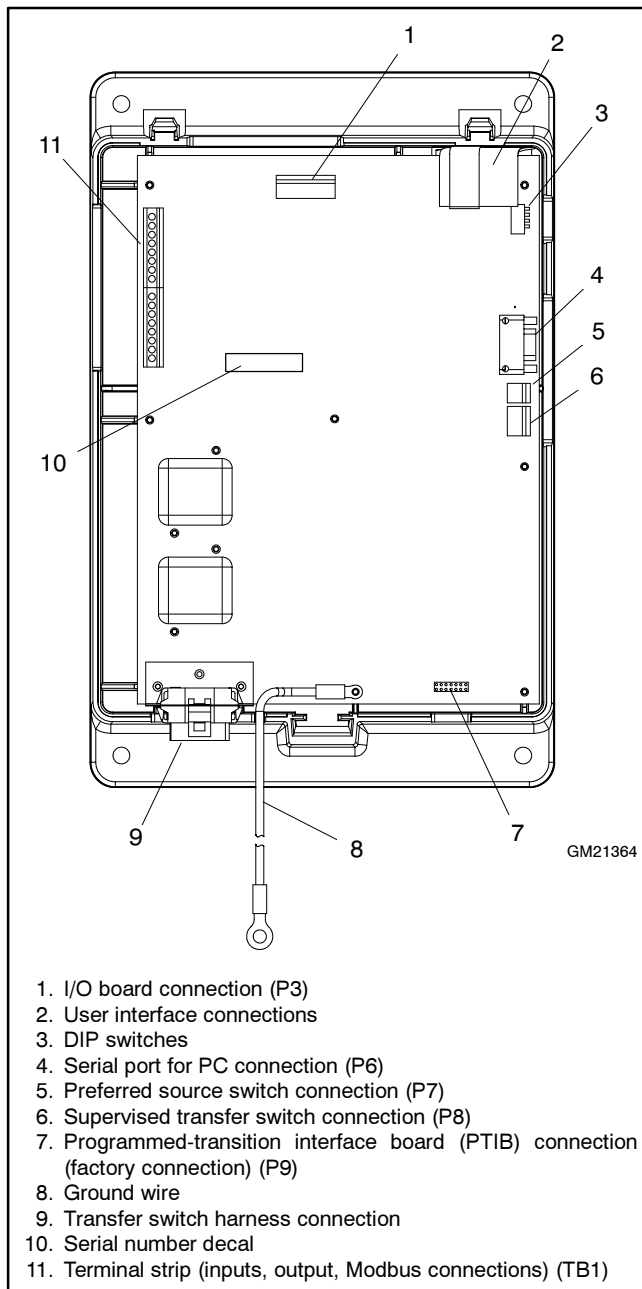

Figure 3-18 Controller Board Component Locations (cover removed)
6. Disconnect the transfer switch harness at the connector on bottom of the controller. See Figure 3-18.